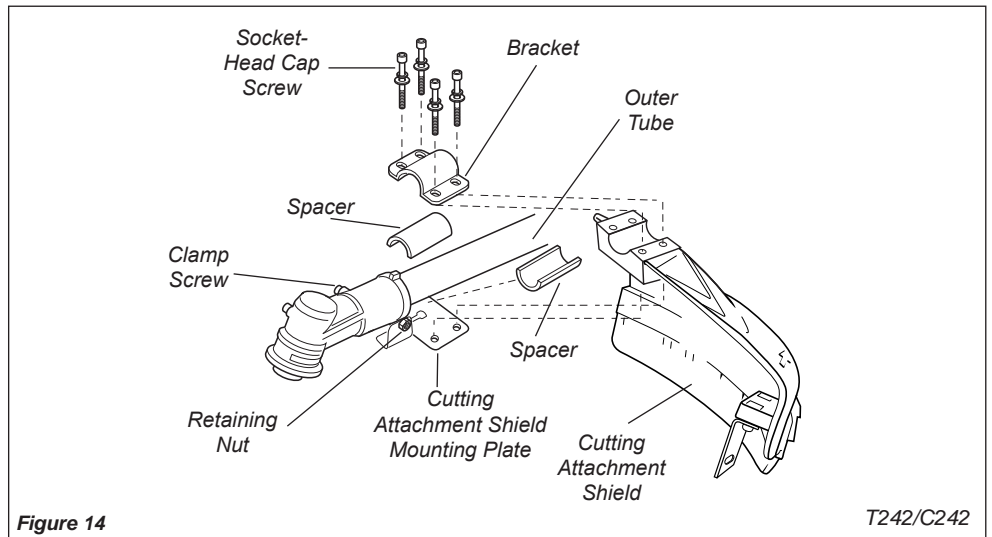

Figure 14
1. Insert the cutting attachment shield between the outer tube and the cutting attachment shield mounting plate. See Figure 14.
2. Fit the two spacers and the bracket over the outer tube and loosely install the four socket-head cap screws. See Figure 14.